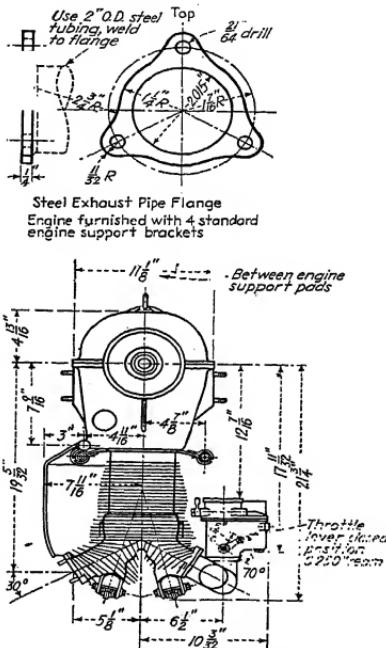

Fig. 11.—Installation drawing showing throttle connection.
10. Other installation drawings are given in Figs. 11 and 12.